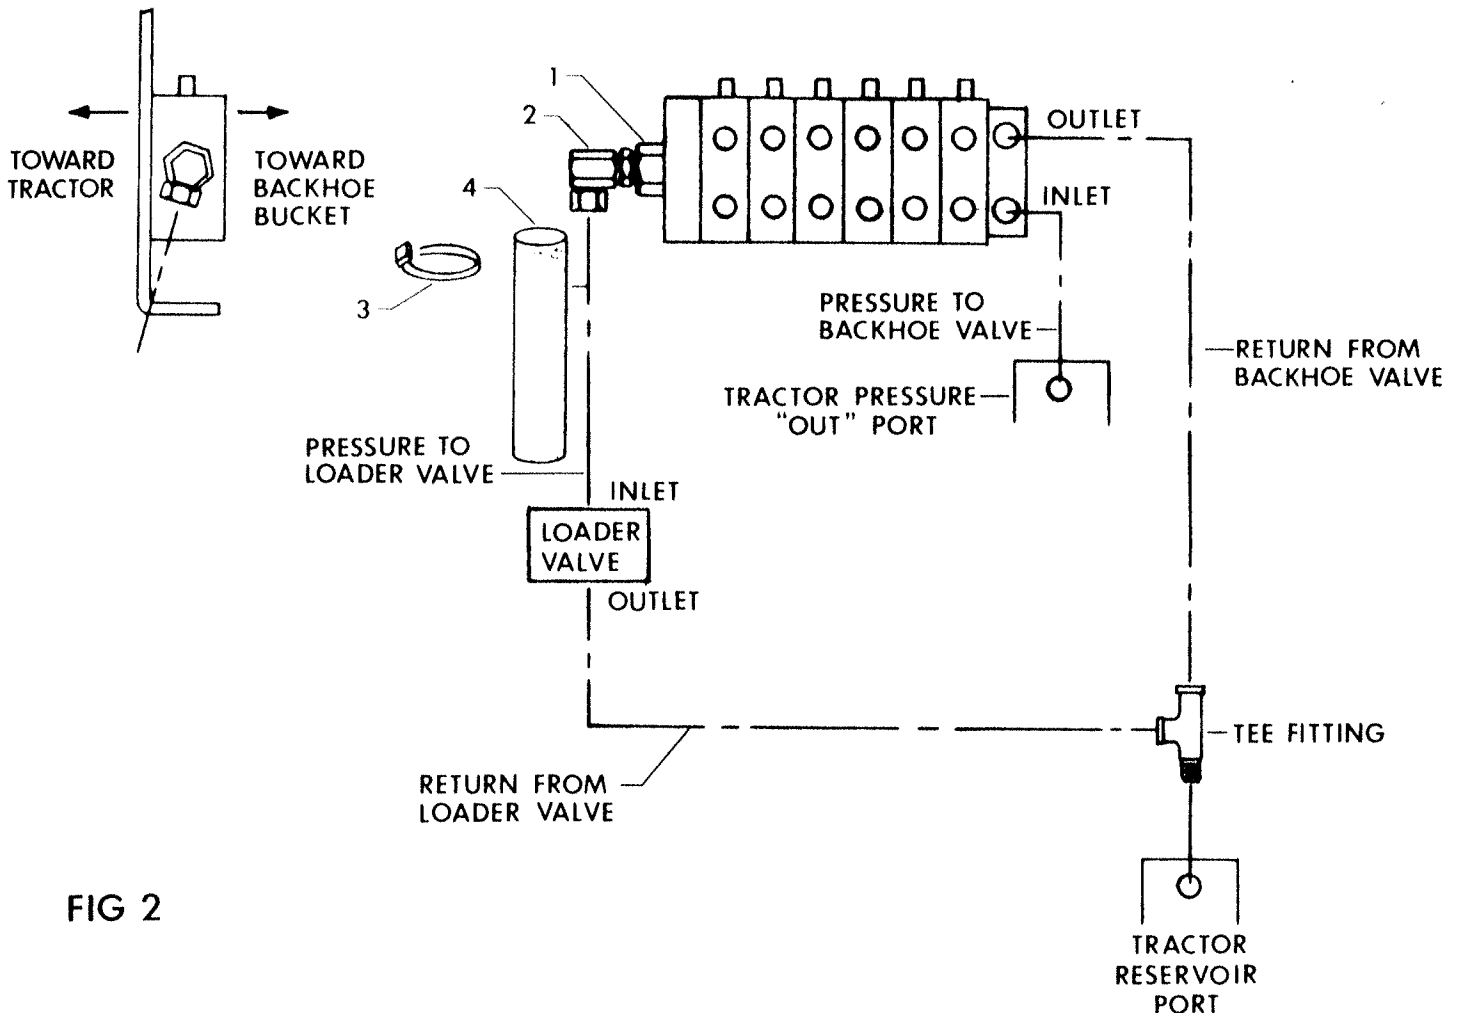

FIG 2
1. Install power beyond sleeve (1) into valve cavity, as shown in Fig 2, making sure that o-rings and back-up ring on sleeve are positioned properly and are not pinched or damaged.
2. Assemble adapter union (2) to power beyond sleeve (1) and direct fitting down and slightly toward tractor, as shown in Fig 2.
3. Assemble hydraulic hose (supplied by customer) to adapter union (2), as shown in Fig 2. Hose should have same pressure rating as original pressure hose to loader or other accessory valve.
4. Install hose sleeve (4) onto hose assembled in Step 3. Position hose sleeve to completely cover adapter union (2) and secure with plastic tie (3) as shown in Fig 2.
**⚠ CAUTION** - Hose sleeve (4) is installed to help protect the backhoe operator from escaping fluid under pressure. If it becomes damaged or lost, replace hose sleeve (4) and plastic ties (3) immediately.
5. Assemble hydraulic hose (see Step 3) from backhoe power beyond port to loader or accessory valve inlet port using fittings (supplied by customer) as needed. Refer to Fig 2.
6. Complete assembly of backhoe "pressure" and "return" hoses as shown in Fig 2 using hoses supplied with the Backhoe Adapter Kit and tee fitting (supplied by customer). Refer to your Backhoe Adapter Manual for additional information.
7. Complete assembly of loader "return" hose to tee fitting as shown in Fig 2. Refer to your Loader Manual for additional information.
8. Replace shroud using hardware removed in Step 1 of "Backhoe Preparation" section. Notch in shroud should provide clearance for the power beyond sleeve (1) and adapter union (2).